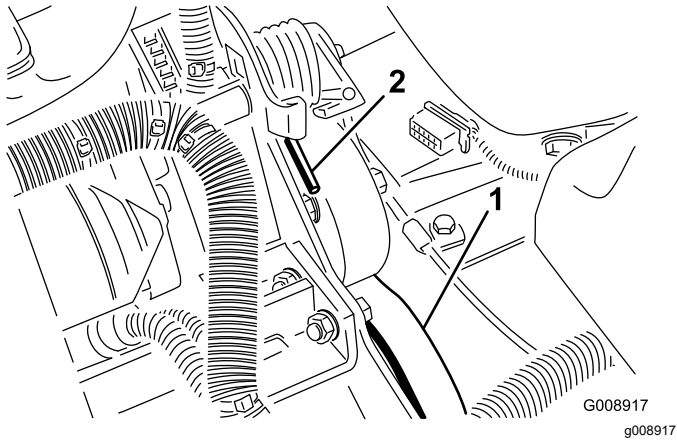

Figure 76
2. Push down and forward on the spring end (Figure 76) to unhook it from the bracket and release tension on the spring.